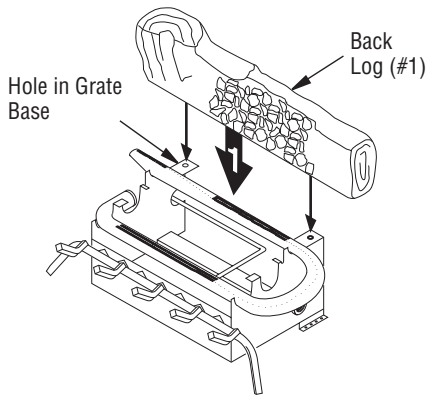

Figure 25 - Installing Back Log (#1) (Base may vary from illustration)
1. Locate pegs on bottom of back log (#1). Slide these pegs into holes in grate base behind burner (see **Figure 25**).